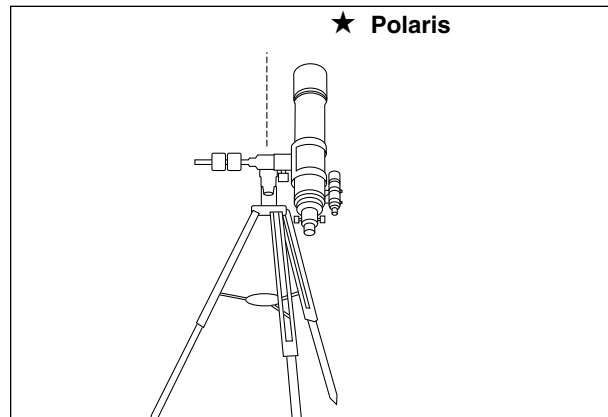

Fig. 11: Telescope aligned too far West.
- b. If the star drifts North, the telescope's polar axis is pointing too far West (Fig. 11).